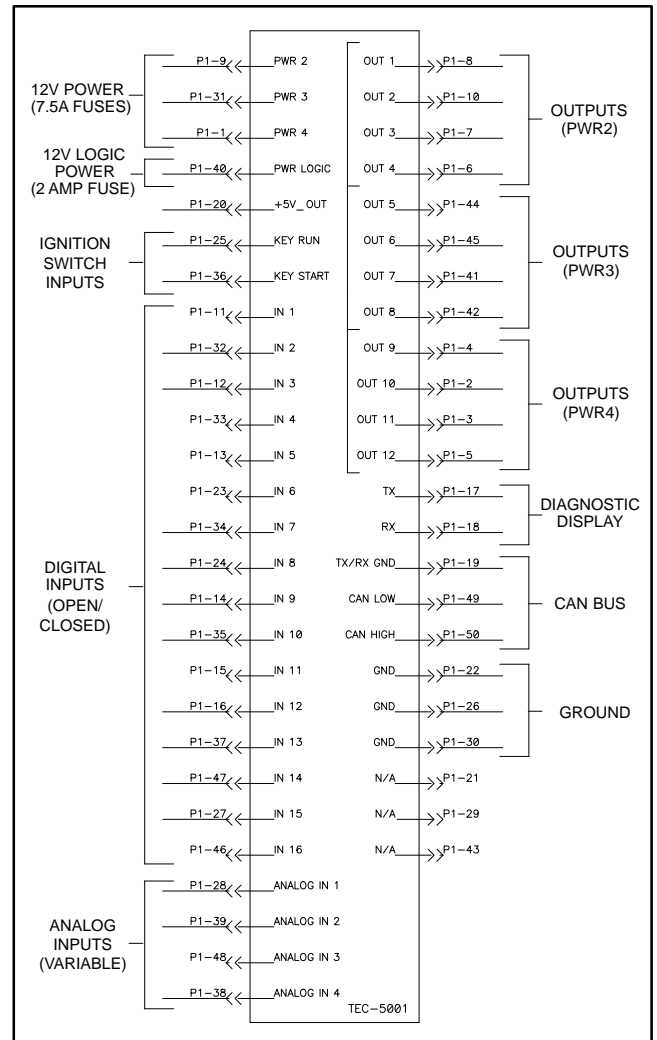

Figure 71
The diagram in Figure 71 depicts the connection terminal functions of the TEC controller. A fifty (50) pin wire harness connector attaches to the controller. The connector pins are listed in the diagram. Note that electrical power for controller outputs is provided through three (3) connectors each protected with a 7.5 amp fuse.